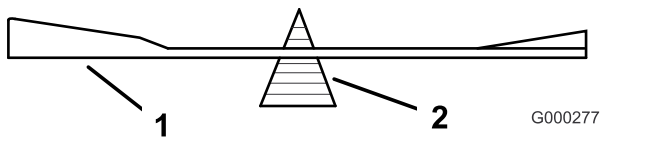

Figure 102
- Check the balance of the blade by putting it on a blade balancer (Figure 102).